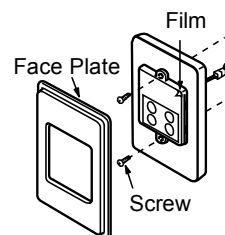

Fig. 4
6. Fix the water controller to the wall using the appropriate fixings as shown in (Fig. 4).
7. Remove protective film from the water controller face as shown in (Fig. 4) and replace face plate.